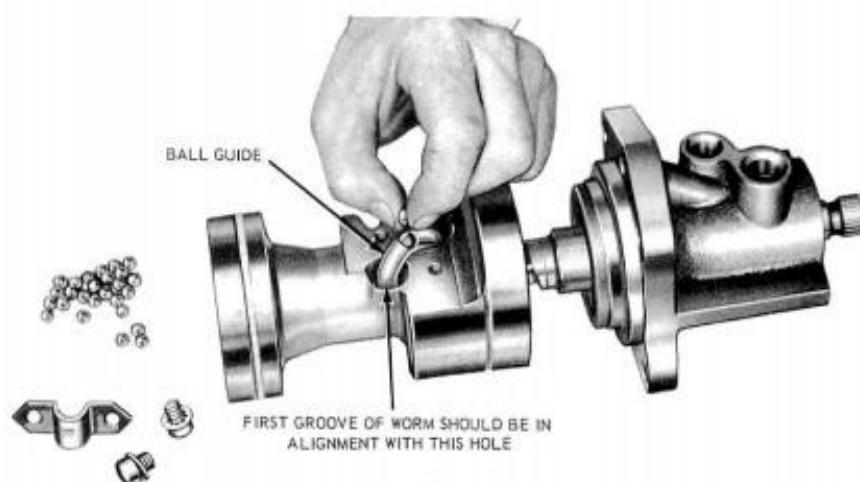

FIG. 23—Assembling Piston on Worm Shaft
so that the first groove is in alignment with the hole nearest to the center of the piston (Fig. 23).
7. Place the ball guide in the piston. Place the 27 or 28 balls, depending on the piston design, in the ball guide (Fig. 23) turning the worm in a clockwise direction as viewed from the input end of the shaft. If all of the balls have not been fed into the guide upon reaching the right stop, rotate the input shaft in one direction and then in the other while installing the balls. After the balls have been installed, do not rotate the input shaft or the piston more than 3 1/2 turns off the right stop to prevent the balls from falling out of the circuit.
8. Secure the guides in the ball nut with the clamp (Fig. 23).